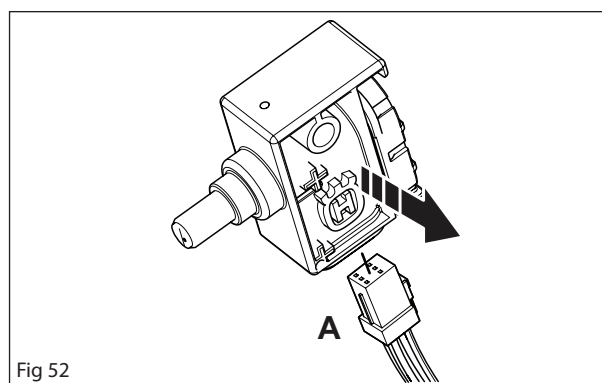

Fig 52
Lift out the main switch and disconnect cable (A). See figure 52.